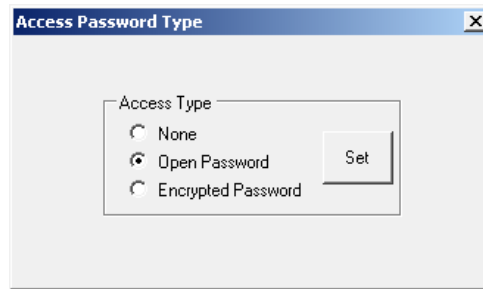

Figure 3-2 Access Password Type Screen
2. Select **Utility/Cybersecurity/Online Role Based Security/Set Access Password Type** from the IPSCom tool bar. IPSCom will display the "Access Password Type" screen (Figure 3-2).